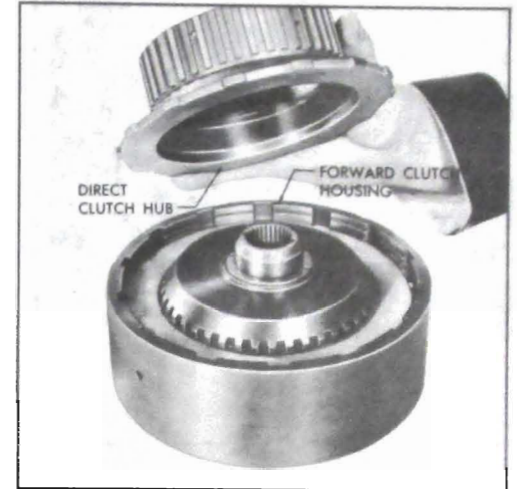

Figure 76-645
2. Remove the direct clutch hub. See Figure 76-645.